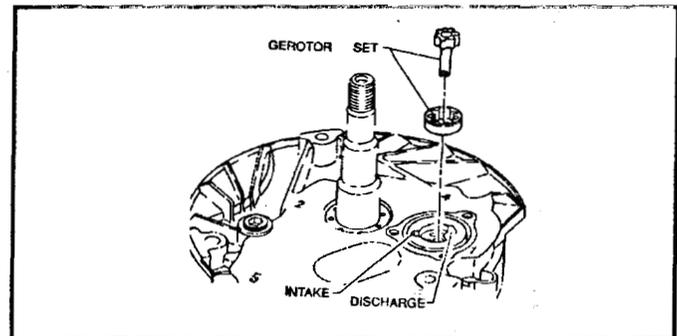

Figure 63
2. Use a magnet to remove the gerotor set. The tolerances of these parts do not require that they be kept in the same relationship for assembly. See Figure 63.